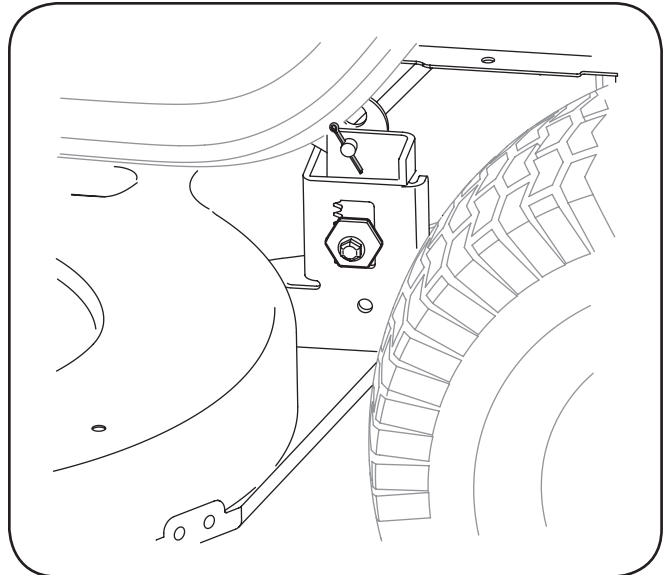

Figure 7-2
5. Looking at the cutting deck from the left side of the tractor, locate the bow-tie cotter pin that secures the deck support rod on the rear left side of the deck. See Figure 7-2. Remove the cotter pin that secures the deck support rod, and carefully remove the deck support from the deck lift arm.